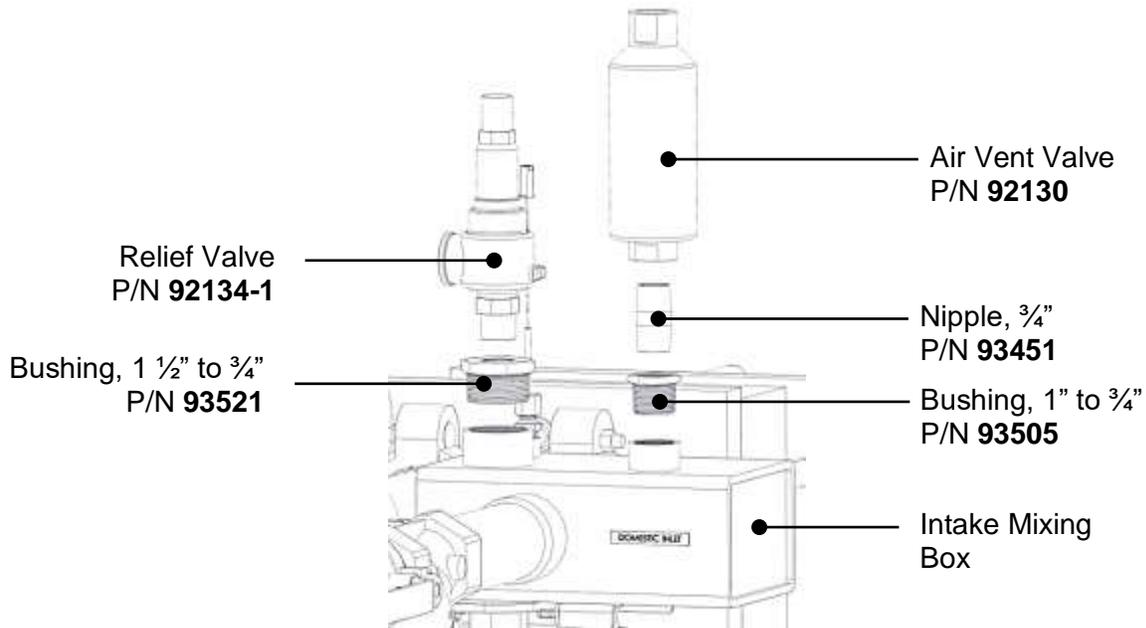

Figure 2-10. Relief Valve and Air Vent Valve Installation – 200 PSI – Exploded
- If you have a 200 PSI unit, install the parts as shown in Figure 2-10.